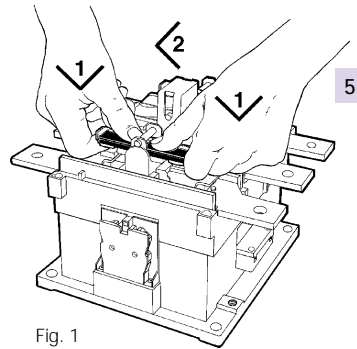

Fig. 1
- Press out the moving arc contacts, see Fig. 1.